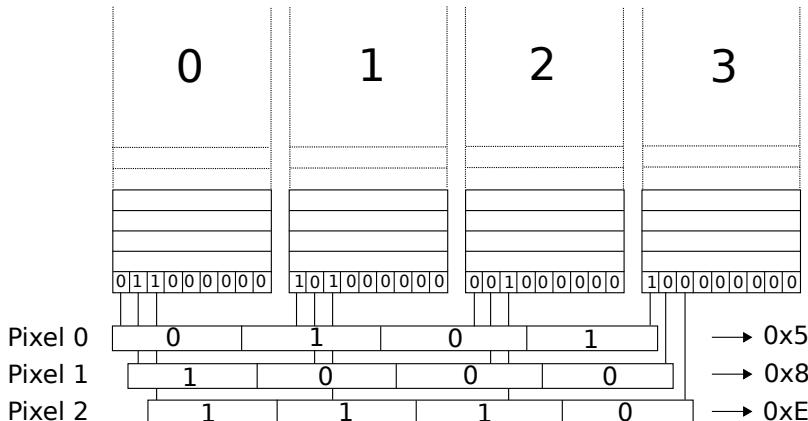

Figure 2.19: EGA bank layout
To write the color of the first pixel, a developer has to write the first bit of the nibble in plane 0 (R), the second in plane 1 (G), the third in plane 2 (B) and the fourth in plane 3 (I). The CRT Controller then reads 4 bytes at a time (one from each plane) resulting in 8 pixels on screen. So in figure 2.19 the first pixel has color magenta(05h), second pixel dark grey (08h) and third pixel bright yellow(0Eh).